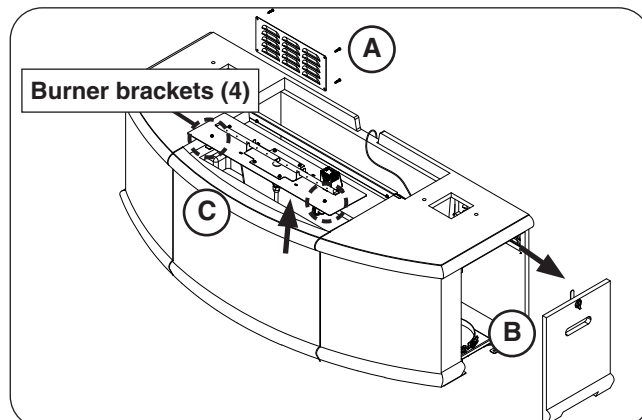

Fig. 24-2 Remove louver panel, door, and burner
2. Remove louver panel on the left side using a Phillips screwdriver (see Fig. 24-2, A). Store in a safe location.
3. Remove the storage door by first turning the door handle counter-clockwise, then carefully pulling the door outward (see Fig. 24-2, B). Store in a safe location.
4. Use a $\frac{5}{16}$ " nut driver to partially unfasten the four screws found on the burner assembly. Then **carefully** remove the burner and store in a safe location. See Fig. 24-2, C.